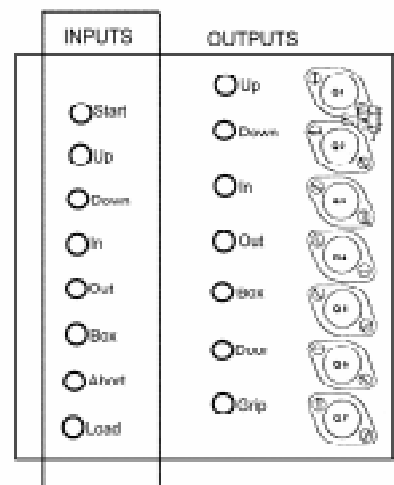

Figure 54C
6. Check logic board to see if "BOX" input light is lit (see Figure 54C). If lit, proceed to step 7. If not lit, turn adjusting screw as necessary to move switch toward slot in vane until BOX input light is lit. (The switch should be just at the top of the vane.)